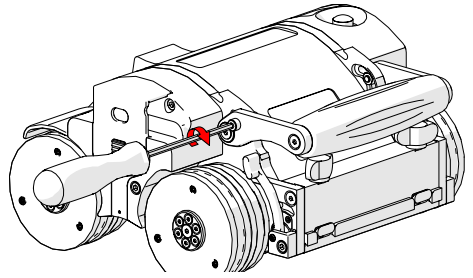

Fig. 76 - Tighten lock screws
3. Tighten the handle lock screws when complete (Fig. 76).